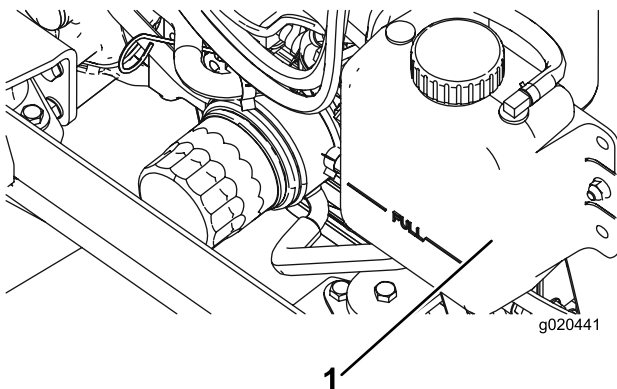

Figure 110
1. Carefully remove the radiator cap and expansion-tank cap (Figure 110).